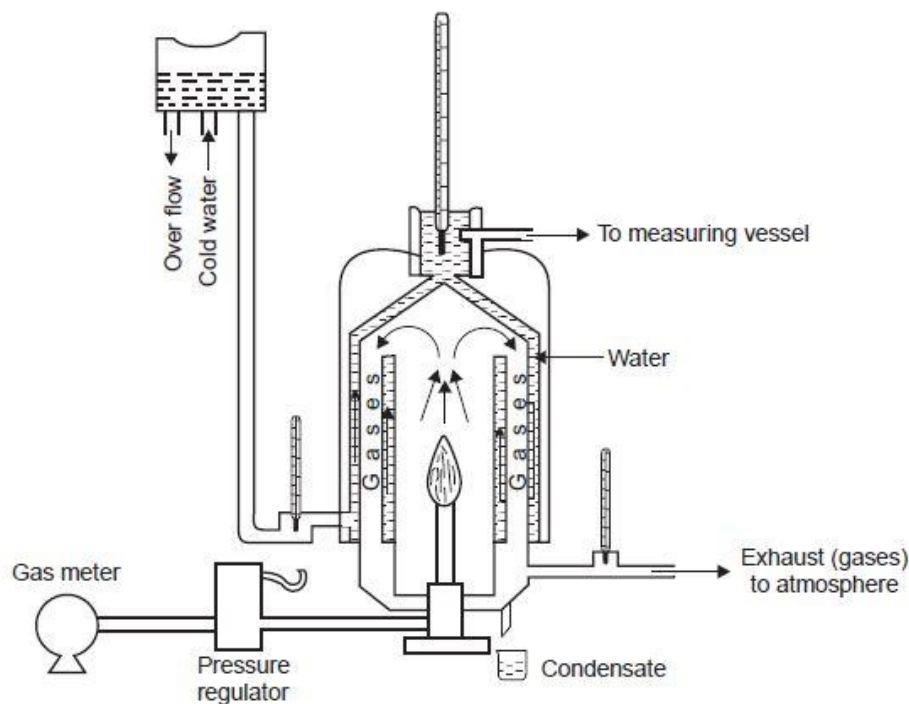

Fig.9.2 - Junker's gas calorimeter.
- ▶ The calorific value of *solid and liquid fuels* is determined in the laboratory by 'Bomb calorimeter'. It is so named because its shape resembles that of a bomb. Fig.9.2 - Junker's gas calorimeter. shows the schematic sketch of a bomb calorimeter.
- ▶ A crucible in which a weighted quantity of fuel sample is burnt is arranged between the two electrodes as shown in Fig.9.2 - Junker's gas calorimeter.